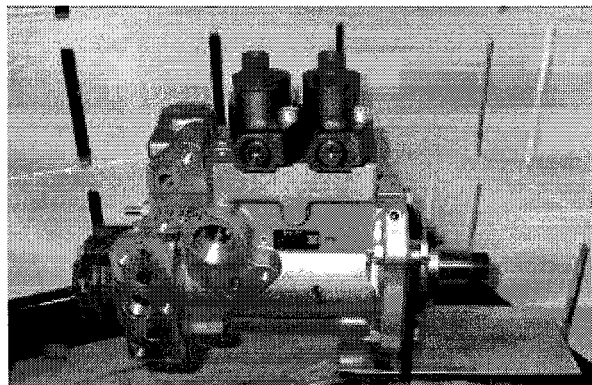

Figure 3 – High Pressure Fuel Pump In Holding Fixture
7. Remove and discard the high pressure pump mounting o-ring. Mount the fuel pump to the pump holding fixture and secure it using the four supplied nuts. See Figure 3.